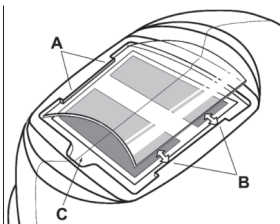

Figure 1
Replacing Front Clear Lens: Replace the front cover lens if it is damaged – cracked, soiled or pitted. Place your finger or thumb into recess (C) at the bottom edge of the cover lens and flex the lens upwards until it releases from the edges marked A and B. (Refer to figure 1). Use only the replacement front cover lenses specified in this manual.